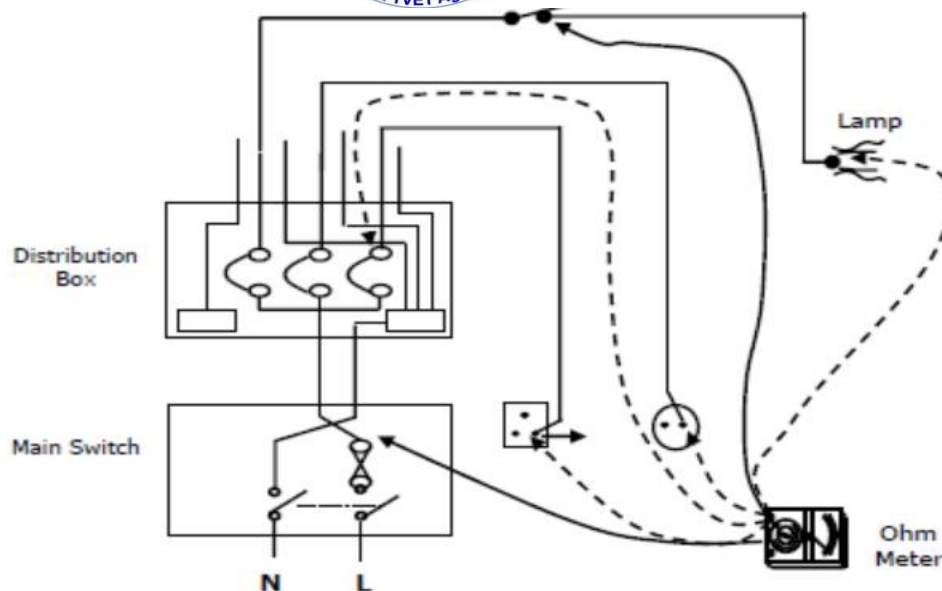

Figure 2.4 – Polarity Test
- Carry out test as in Figure 2.4;